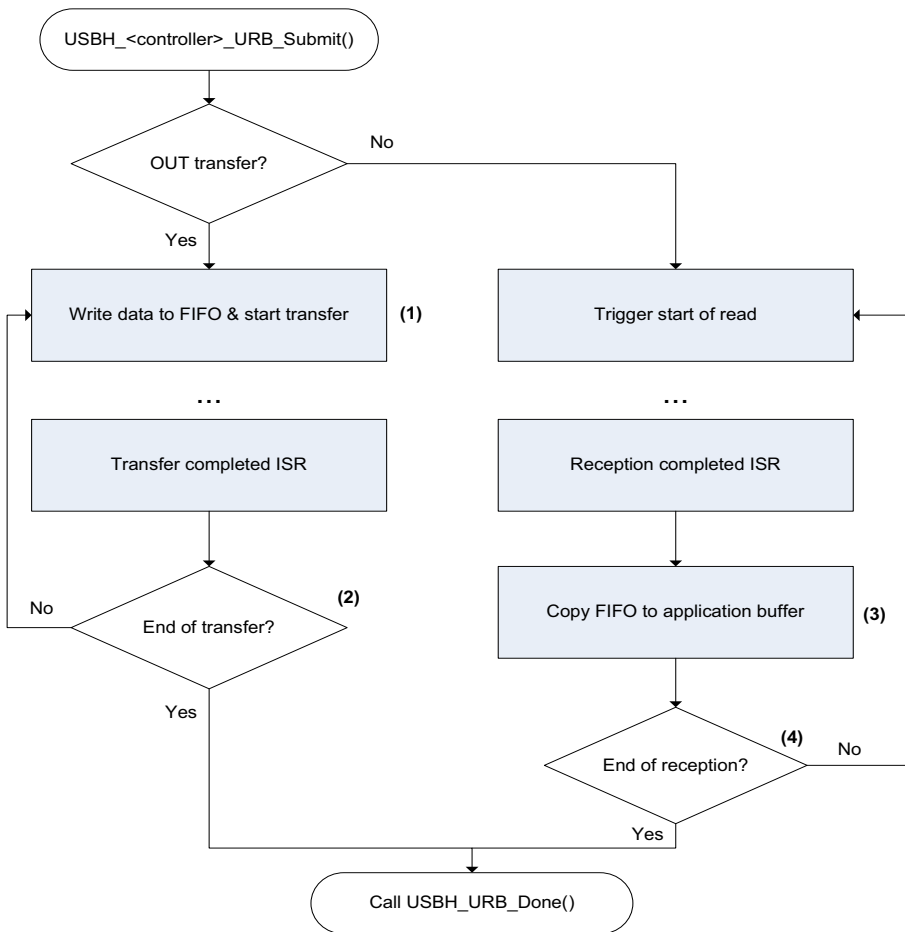

Figure 5-1 URB Submit when HC is not List-Based
Host Controllers (HC) that are not list-based generally use a FIFO for data transfers. FIFOs generally have a limited depth and are likely to be unable to hold an entire transfer, especially if it is a large transfer. Figure 5-1 summarizes the operations that must be done by the driver in this case.